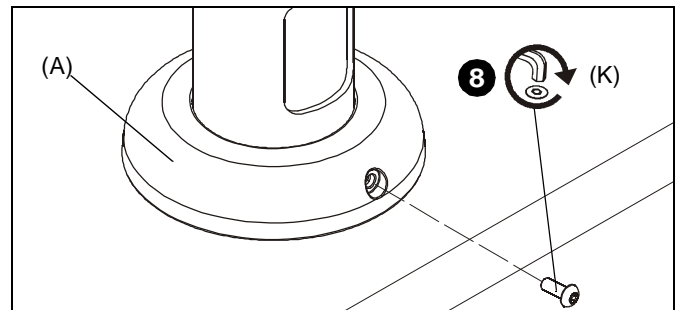

Figure 4
8. Secure lower cover to table stand (A) using 10-24 x 1/2" security screw (K). (See Figure 4)